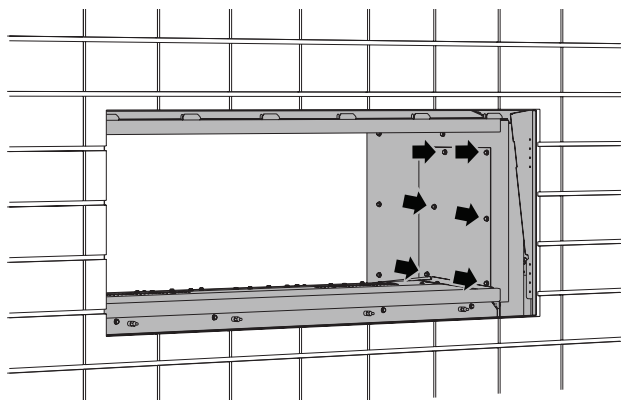

Figure 98
4. The gas valve and control module access panel is shown in Figure 98. Remove the six screws and slide the panel upwards to remove.